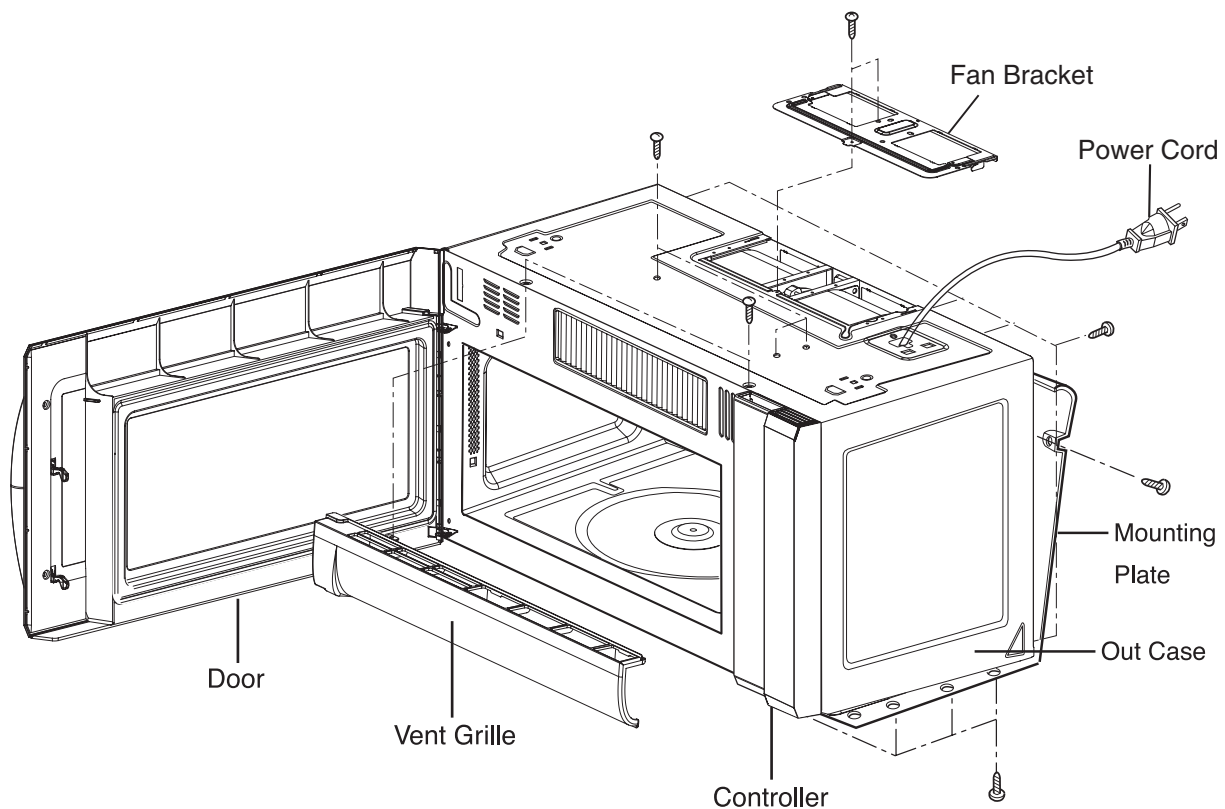

Figure 8
B. REMOVING THE OUT CASE(Figure 8)
- (1) Remove the vent grille by removing one screw securing it to the outer case.
- (2) Remove three screws securing it to the air duct.
- (3) Remove one screw securing it to the front cavity.
- (4) Remove the mounting plate by turning two screws securing it to the outer case.
- (5) Remove three screws on the left central edge and three screws on the right central edge of the base plate.
- (6) Remove the fan bracket from the outer case by removing one screw securing it to the outer case and removing one screw securing it to the motor.
- (7) Remove four screws of the rear cavity.
- (8) Remove the power cord cover by remove one screw securing it to the outer case.
- (9) Remove the outer case with disconnecting power cord connector.